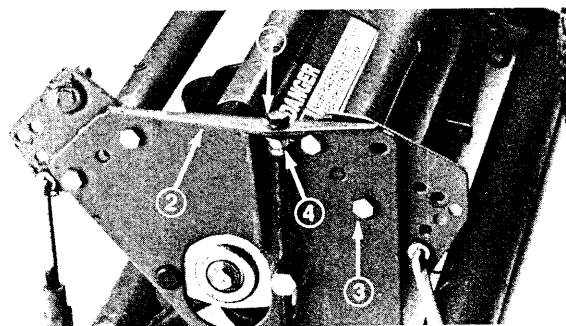

Figure 27
1. To adjust reel toward bedknife for proper cutting, turn hex head bolt on each end of cutting unit counterclockwise no more than 1/6 turn (one flat of bolt head) (Fig. 27).
3. Turn reel over by hand (using play between drive ball and drive shaft) to check for proper adjustment. Adjust locknut securing adjusting block on inside of side plate to eliminate any clearances (Fig. 27).